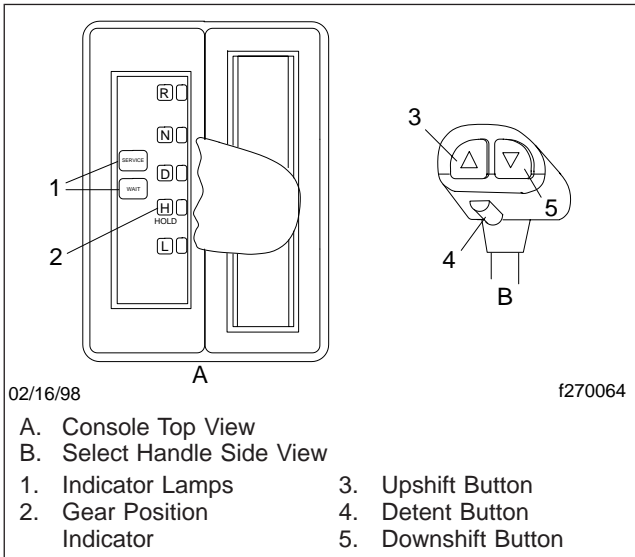

Fig. 8.5, Enhanced Driver Command Console (DCC)
- The DCC (Fig. 8.5) has indicators for reverse, neutral, and the three forward positions: drive, hold, and low. Service and wait lamps are also located on the console. The gear select handle contains upshift and downshift buttons and a gear select lever detent button.
2. Select either LO or HI reverse by depressing either the downshift or upshift button (**Fig. 8.5**) on the gear select handle (if equipped).
1. With the vehicle stopped, place the gear select lever in the "D" or "H" position to select a starting gear. See Fig. 8.5.
2. Select a starting gear with the upshift or downshift buttons on the gear select handle. See Fig. 8.5.